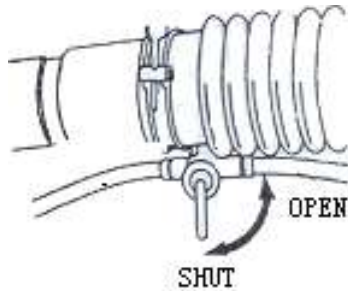

Fig 7
a.During spraying operatin,while adding chemical,the switch must be shut,see Fig.7.During dusting operation,dusting valve throttle and fuel lever should be on the bottom position,other-wise,the machine will have chemical out.